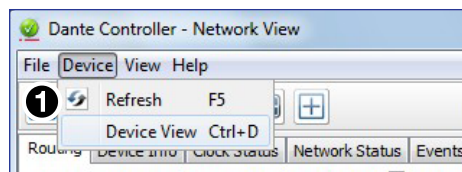

Figure 11. Select Device View
1. From the toolbar, select **Device>Device View** (see figure 11, ❶).